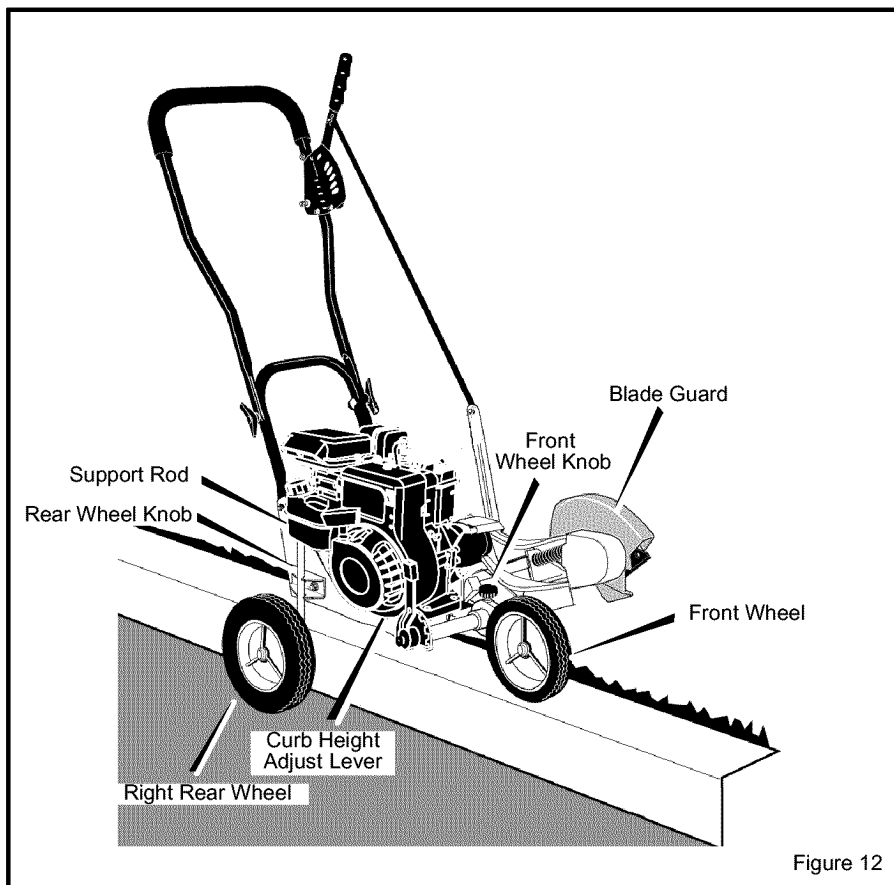

Figure 12
Because the front wheel and the right rear wheel are adjustable, the Edger can be used on uneven surfaces, such as the curb shown in Figure 12. Set the wheel positions as follows.
**wheel** until the **front wheel** is level with the left rear wheel and the unit is setting on the curb as shown in Figure 12.